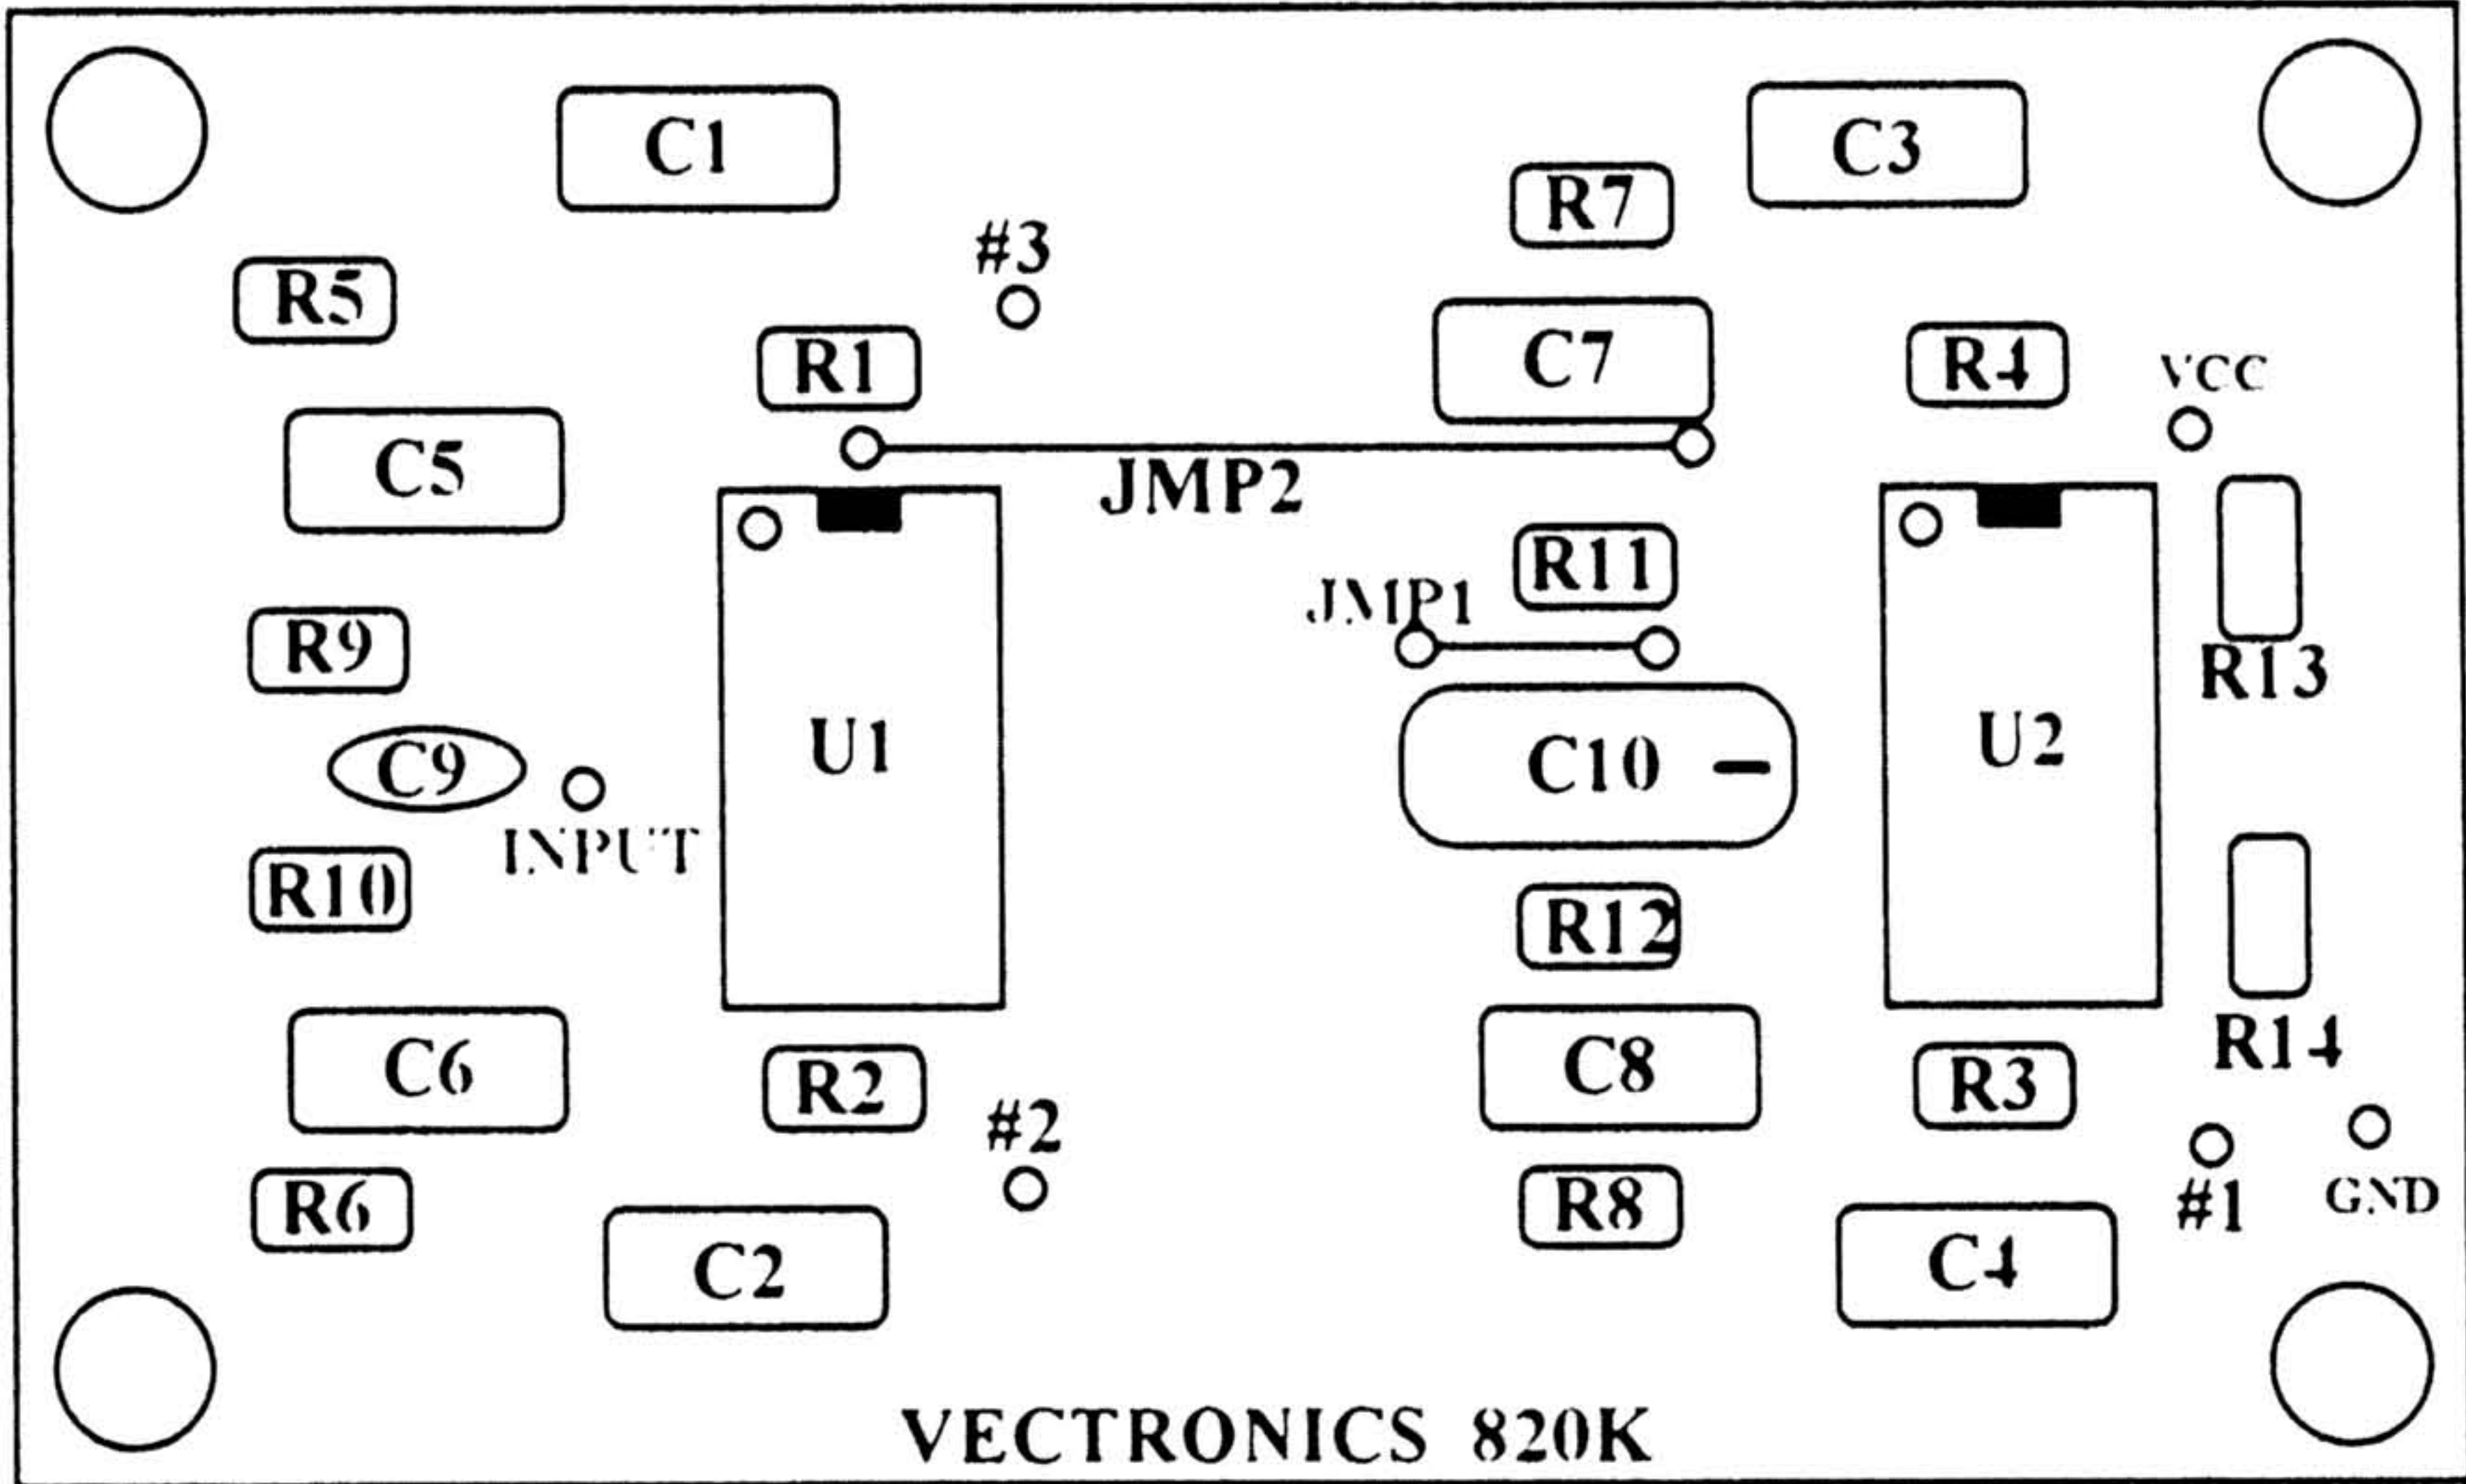

Figure 1
- 41. Insert the bare ends of the 1 1/4" wire into the holes on the circuit board located at JMP2. Please refer to the section titled "Parts Placement". Figure 1 for the location of JMP2.
- □ 45. Locate capacitor C10 (10uF). This is an electrolytic type capacitor and will be marked "10uF" (actual value in uF). Carefully install C9; be sure to orient the negative end of the capacitor properly. Please refer to the section titled, "Parts Placement", Figure 1 for correct orientation of C10. Once installed, then solder in place and trim excess lead.
- □ 46. Take the remaining 6" lengths of insulated wire and cut them in half. You should have (10) 3" pieces of insulated wire.
- 67. Locate (1) 14 pin IC socket.
- 68. Install the IC socket at the U1 location on the circuit board. Be careful to orient the socket correctly according to the "Parts Placement" section Figure 1.
- 71. Install the IC socket at the U2 location on the circuit board. Be careful to orient the socket correctly according to the "Parts Placement" section Figure 1.
- 73. Locate both LM747 op amp integrated circuits. Insert them into IC sockets for U1 and U2. Please refer to the "Parts Placement" section, Figure 1 for proper orientation. Be sure not to bend any of the pins underneath the IC body, and that all pins are inserted into the socket.